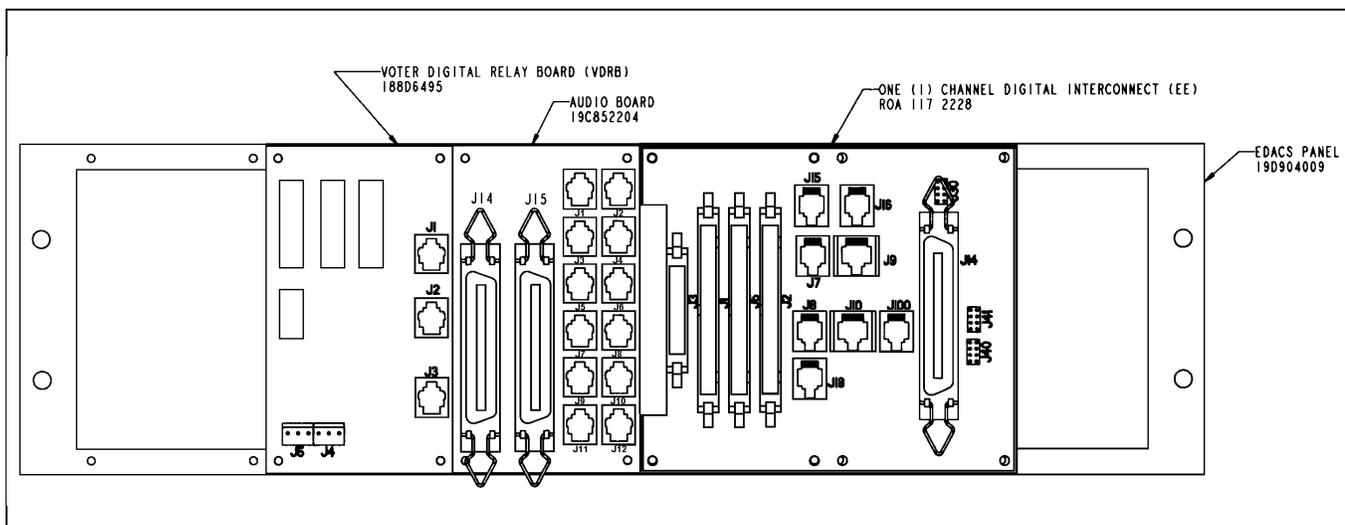

Figure 1 - Typical CV² Interface Panel Configured for Simulcast One (1) Channel per Shelf
- Simulcast Configuration using One (1) Channel per Shelf.
- Simulcast Configuration using Two (2) Channels per Shelf.
The one and two channel Simulcast Interface Panels consist of a combination of sub-assemblies mounted on the EDACS Panel. An Interface Panel for a one (1) channel 17 site Simulcast system is shown in Figure 1 and a typical two channel six site Simulcast configuration is shown in Figure